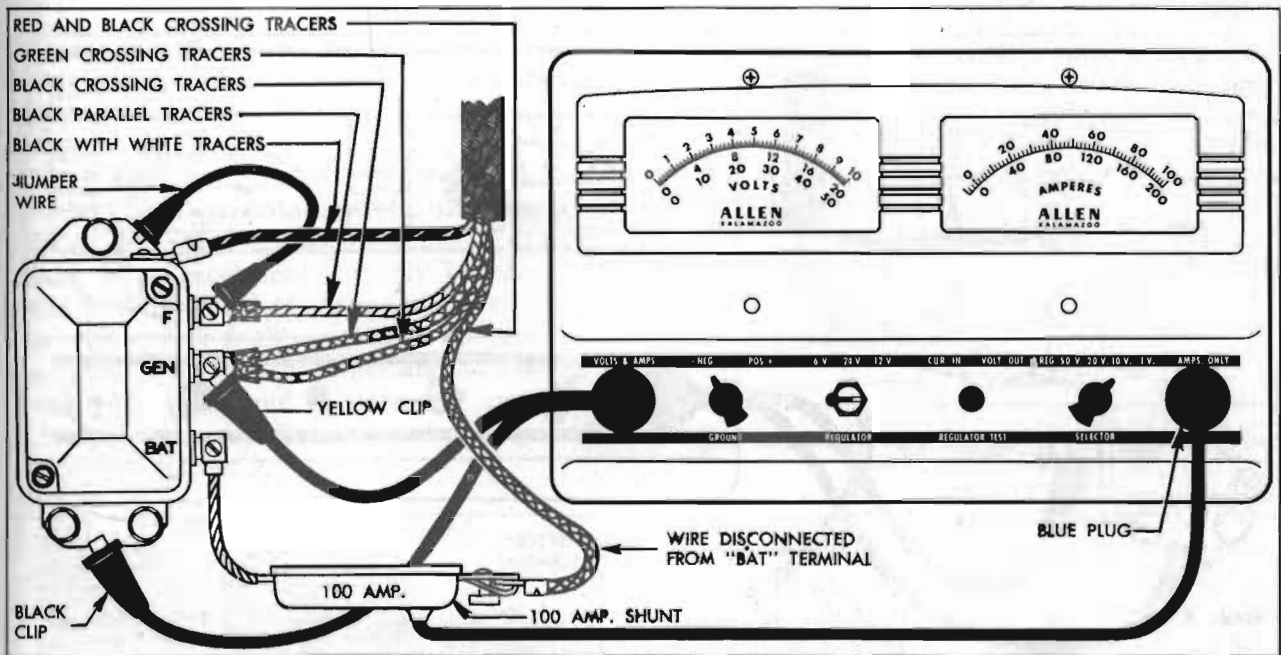

Figure 10-23—Cutout Relay Test Connections—Allen Volt-Ampere Tester
3. Disconnect wire from regulator terminal marked "BAT" and attach flexible lead of 100 AMP. SHUNT to the "BAT" terminal of regulator. Attach the disconnected battery wire to opposite end of the SHUNT. See figure 10-23.
4. Insert RED plug of voltmeter lead into "VOLTS & AMPS" socket of tester, connect YELLOW clip of lead to regulator terminal marked "GEN", and connect BLACK clip to ground on base plate of regulator. See figure 10-23.
(a) Reconnect the 100 AMP. SHUNT as shown in figure 10-23, but do not connect the jumper wire nor the voltmeter lead (yellow and black clips).